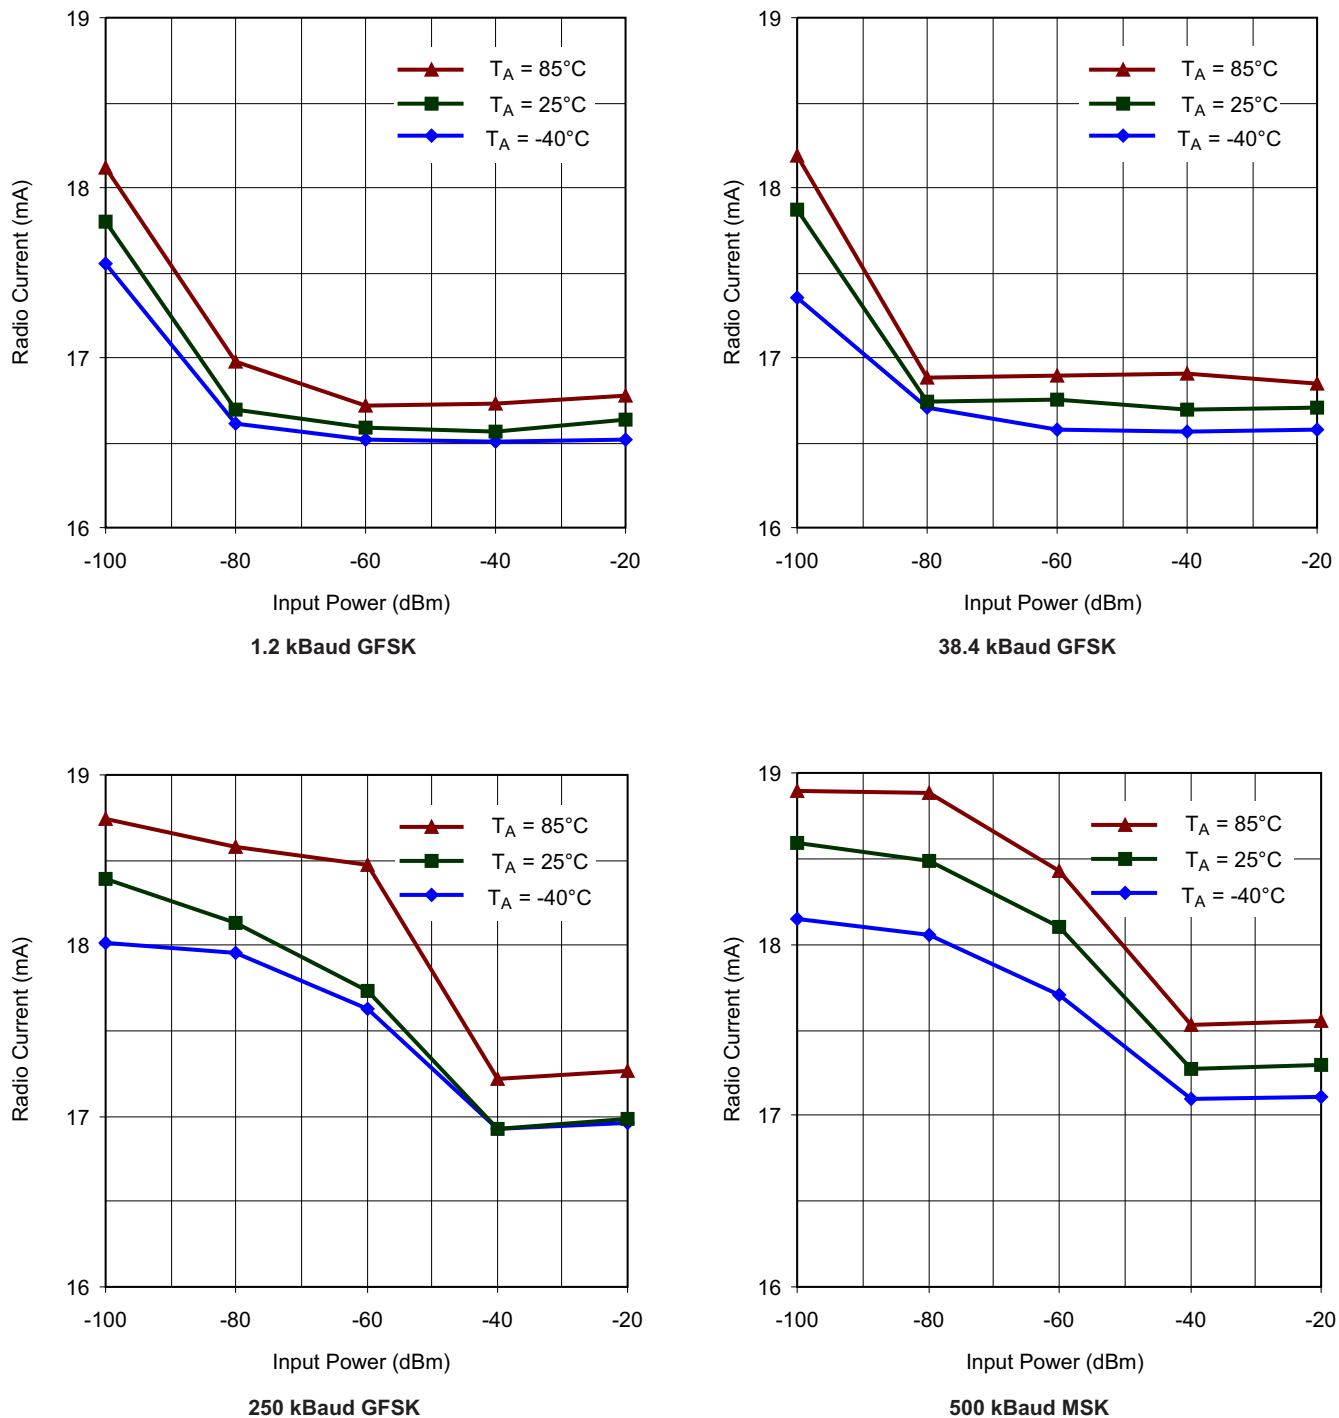

Figure 5-20. Typical RX Current Consumption Over Temperature and Input Power Level, 868 MHz, Sensitivity-Optimized Setting
- (1) All measurement results are obtained using the EM430F6137RF900 with BOM according to tested frequency range (see Table 7-1).
- (2) Reduced current setting (MDMCFG2.DEM_DCFILT_OFF = 1) gives a slightly lower current consumption at the cost of a reduction in sensitivity. See Section 5.55 through Section 5.58 for additional details on current consumption and sensitivity.
- (3) For 868 or 915 MHz, see Figure 5-20 for current consumption with register settings optimized for sensitivity.